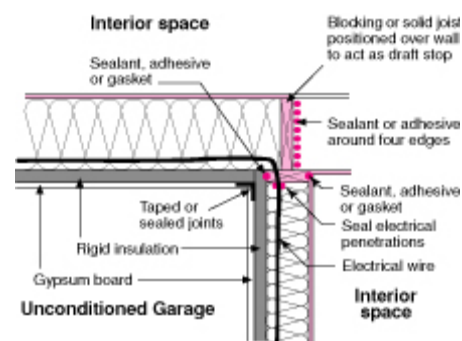

Figure 17
- **Attached garages** – The building enclosure surfaces shared between conditioned space and an unconditioned garage must have a continuous air barrier. See *Figure 17* for details in terms of using sealants and rigid insulation to create a continuous air barrier between the attached garage and living space. See *Air Sealing / Air Drywall Approach Details*.